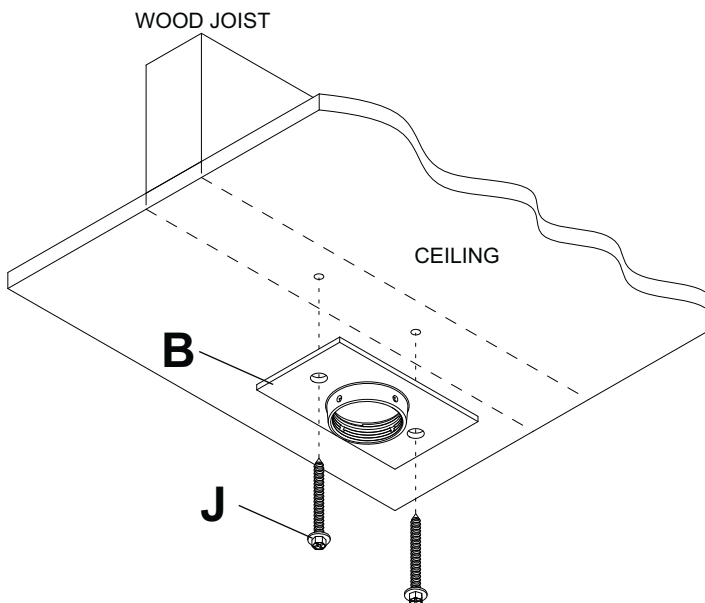

fig. 1.1
- 1 Drill two 5/32" (4 mm) dia. holes to a minimum depth of 2.5" (64 mm). Attach ceiling plate (**B**) to ceiling with two #14 x 2.5" wood screws (**J**) using 3/8" (10 mm) socket wrench as shown in figure 1.1.